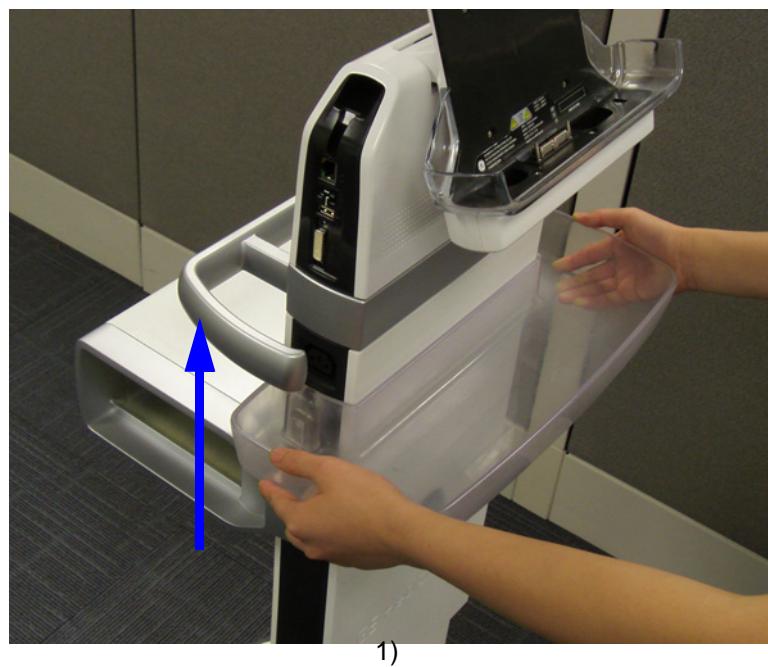

Figure 8-2 Docking Cart Plastic Shelf replacement
- 1.) Lift the Plastic Shelf and remove it from Docking Cart. Refer to Figure 8-2 on page 8-5